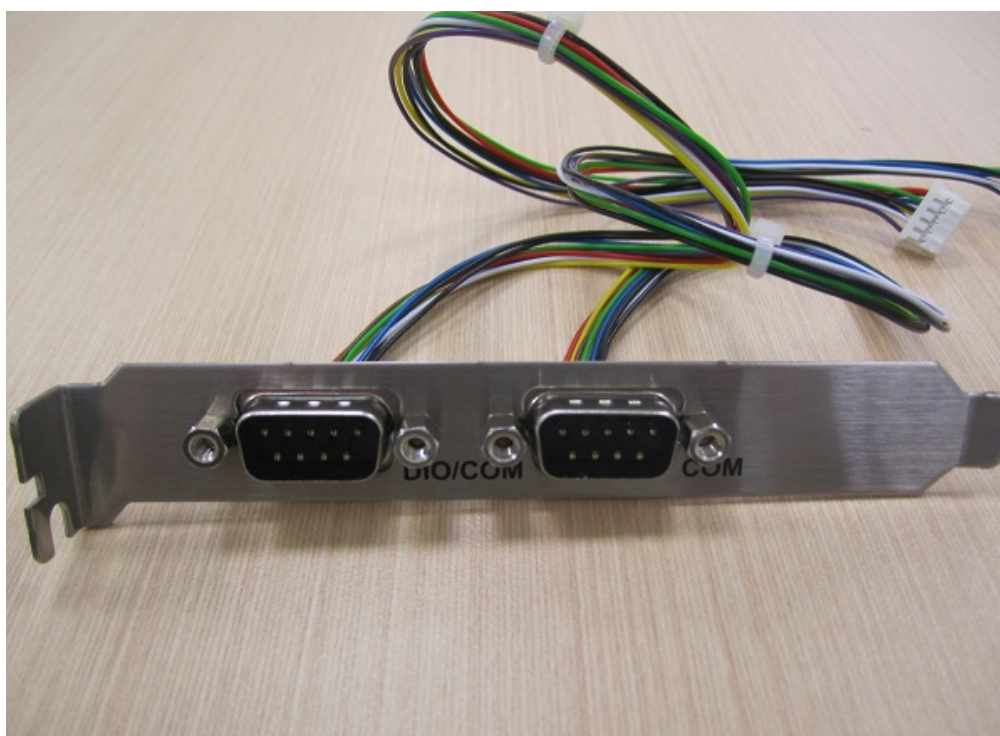

Figure 2.57
3. Remove the two COM connectors from the module case and affix them to the expansion slot shield (as shown in Fig. 2.57).